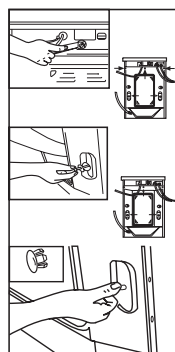

Fig 2
- Remove the packing screws as shown in figure 2.